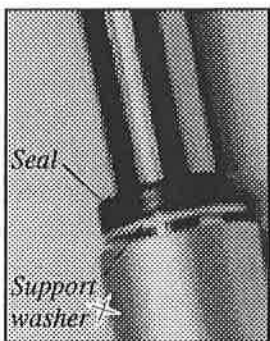

Fig. 14
21. Remove the seal (Fig. 14).
25. Pump the slider up and down on the stanchion to drain any remaining oil out of the fork. Remove the support washer (Fig. 14).